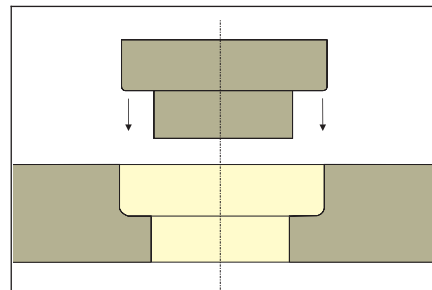

Figure 5 Bond replacement piece in place.
9. Coat both the tongue and groove surfaces with epoxy and fit together. (See Figure 5.) Remove excess epoxy.